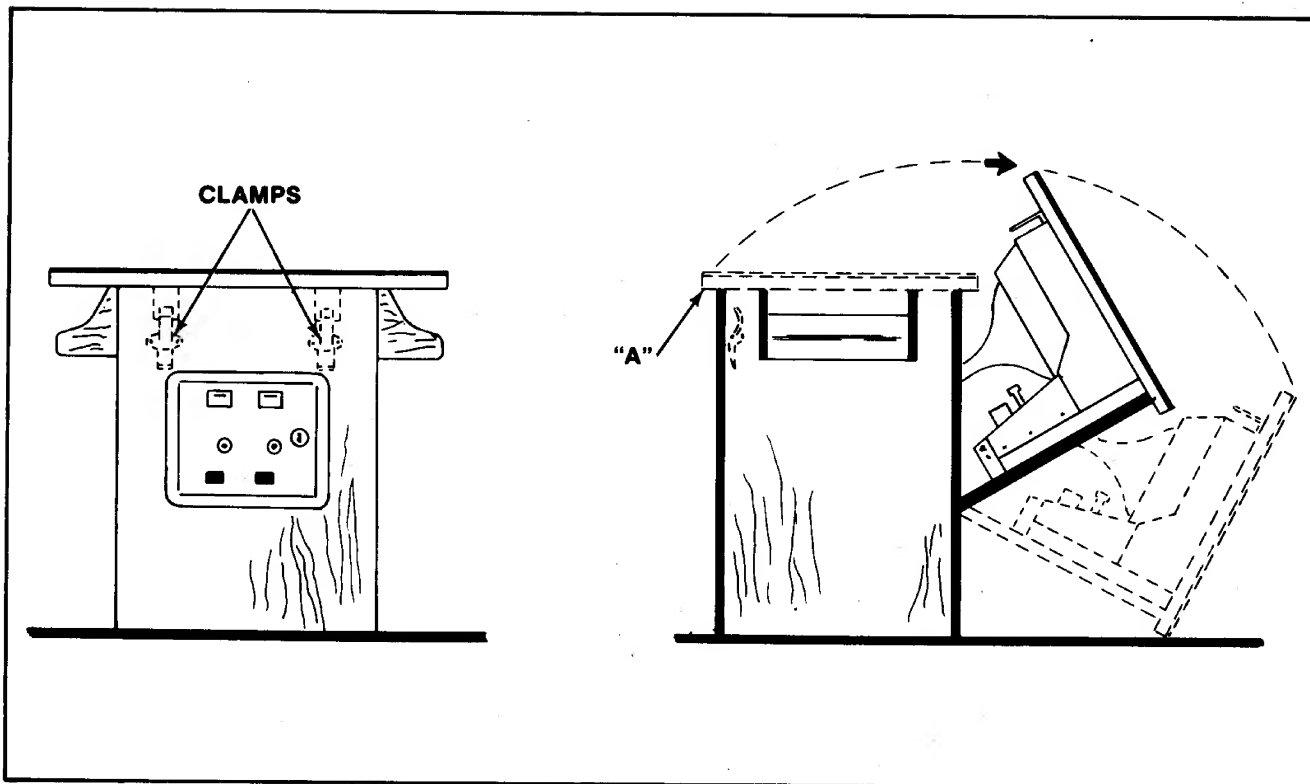

Figure 4-10 Opening the Cocktail Game
- ☐ Open the coin box door and release the two latches indicated in Figure 4-10.
- ☐ Grasp the table top at "A" and open it as indicated in Figure 4-10.
Open the coin box door and release the two latches indicated in Figure 4-10.